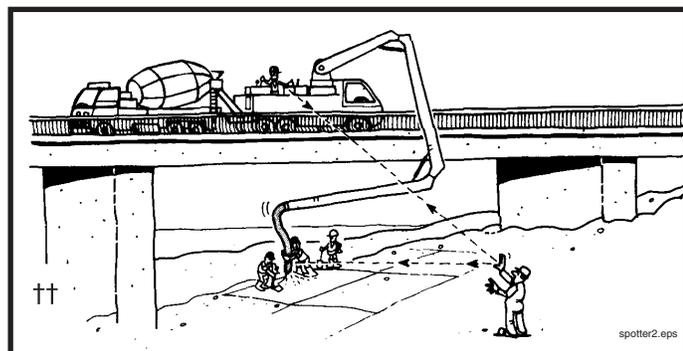

Figure 53
8.35 **⚠ WARNING** Never operate the boom "blind." If you can't see the point of placement, you must establish a system of communications with the workmen who can see the point of placement. Arrange for radio communications, a system of visual or auditory signals (lights or bells), or a spotter. If a spotter is used, **agree on hand signals before beginning the pour!** (Use of the ACPA standardized hand signals is highly recommended.) If the boom will be moved extensively, arrange for a workman to stay with the pump and put yourself in a position to see the end of the boom (Figure 53).